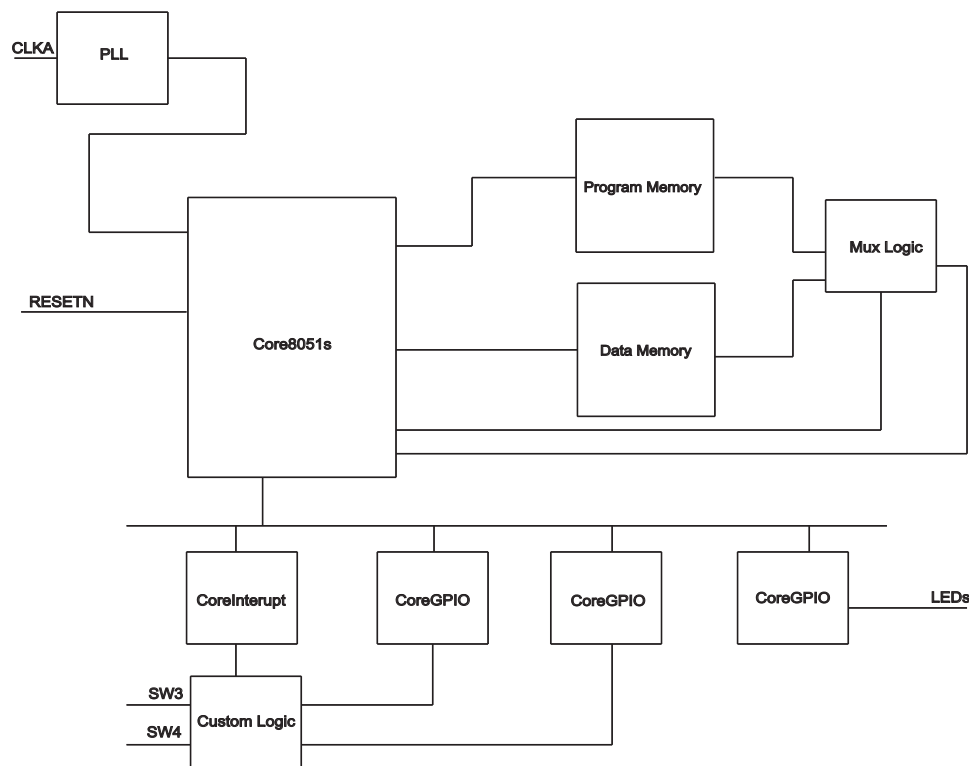
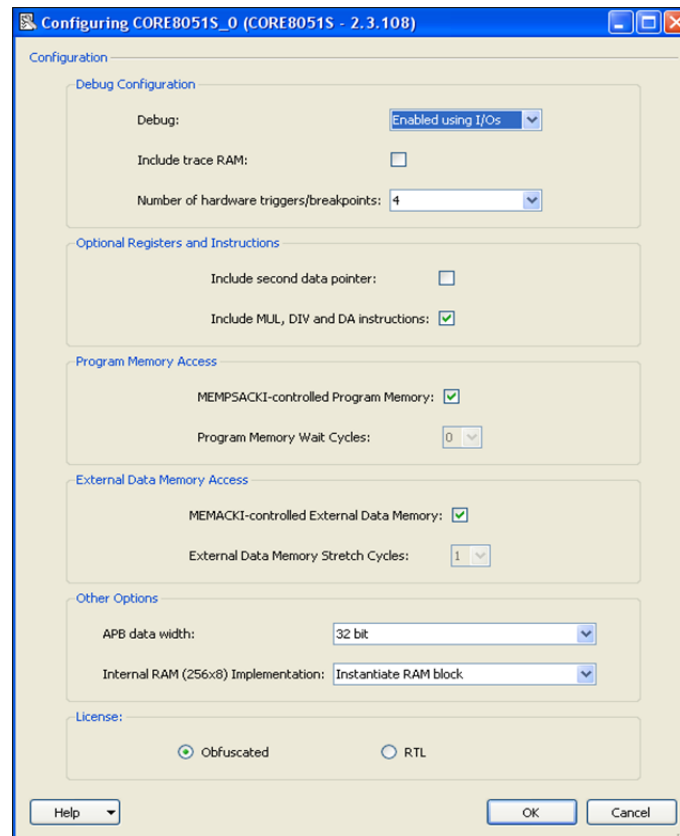
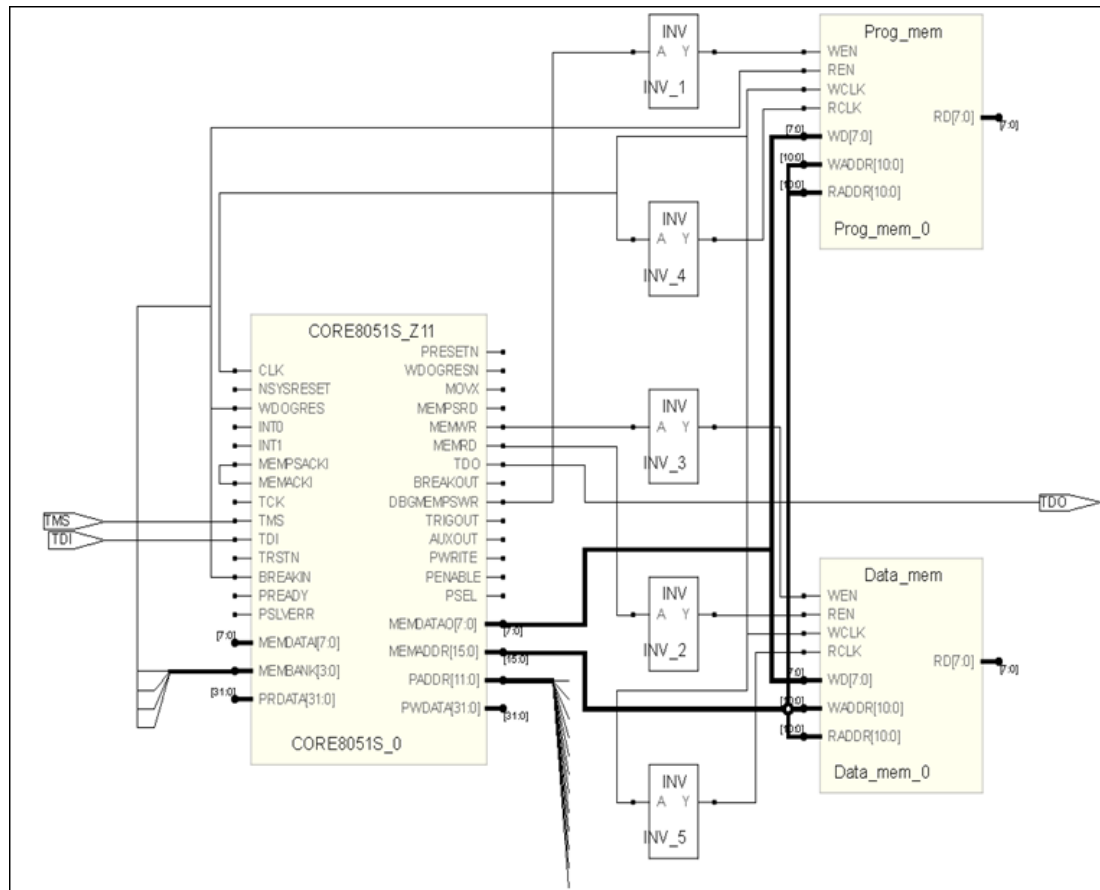

Figure 1 • Design Example Block Diagram
Figure 2 • Core8051s Configuration Settings
Figure 3 • Core8051s Connection to Program and Data Memory
The design files referred to in this application note are available for downloading. The design example can be downloaded from www.microsemi.com/soc/download/rsc?f=CORE8051s_AC354_DF and it includes complete Libero and Keil project. The design example displays a rotating LED pattern using push-button switch. It uses Core8051s, program and data memory, CoreAPB3, CoreInterrupt, CoreGPIO, and PLL. Figure 1 shows a high level block diagram of the design and Figure 2 on page 3 shows Core8051s configuration setting. Please note that “Enable user I/Os” option is selected for debug.
Figure 3 on page 4 shows Core8051s block connected to the program and data memory. It shows read enable and write enable signal polarity and how they are connected to Core8051s block. The memories are 2K deep and 8-bit wide. The program memory is accessed using program store memory acknowledge input (MEMPSACKI) and data memory is accessed using data memory acknowledge input (MEMACKI). The MUX logic block in Figure 1 on page 2 is used to control the correct data being passed to Core8051s.
- Status: Read the status info. Note that the OCI version is 0x60 and Triggers is 4. These numbers match Core8051s configuration settings in Figure 2 on page 3.